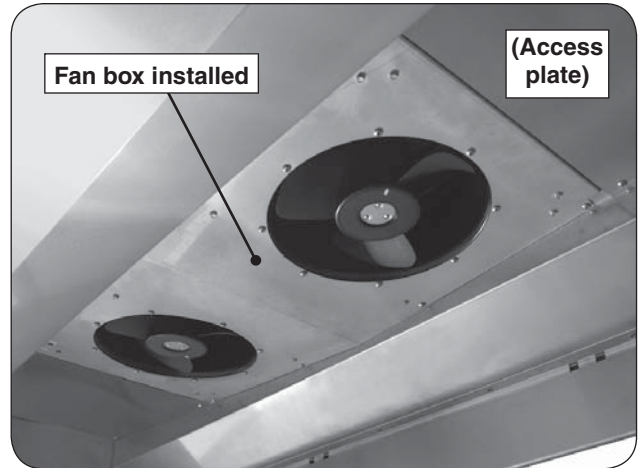

Fig. 13-1
1. Carefully raise the fan box up into the vent hood. You will first need to slide one side in at a slight angle, until the fan box lip rests on the access plate. Then raise and slide the opposite side of the fan box until it is centered in place. Be sure to align the 8 screw holes, then secure the fan box in place with the provided screws. See Fig. 13-1.